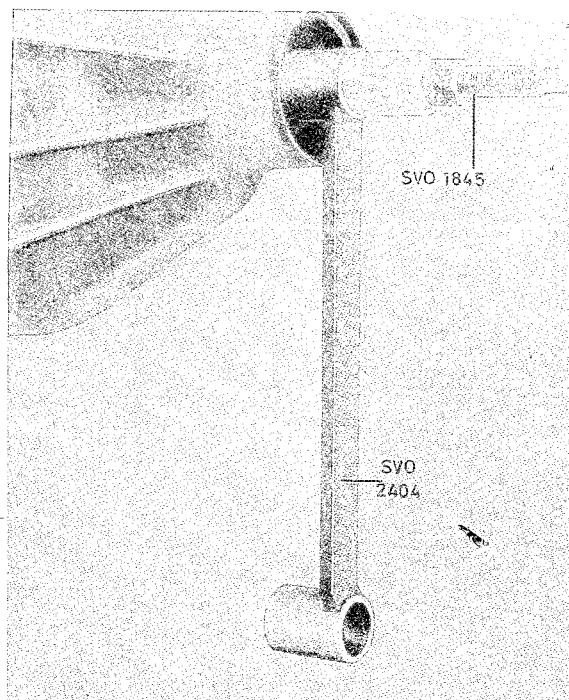

Fig. 4-158. Pinion installation
5. Insert the pinion in the casing and fit on three 0.75 mm (0.03") thick shims and the front pinion bearing. Fit tool 2404 and press tool 1845 on the front end of the pinion and pull in the pinion, see Fig. 4-158. Apply the nut tightener until it must press the pinion forwards so that it does not strike against the bearing positions.